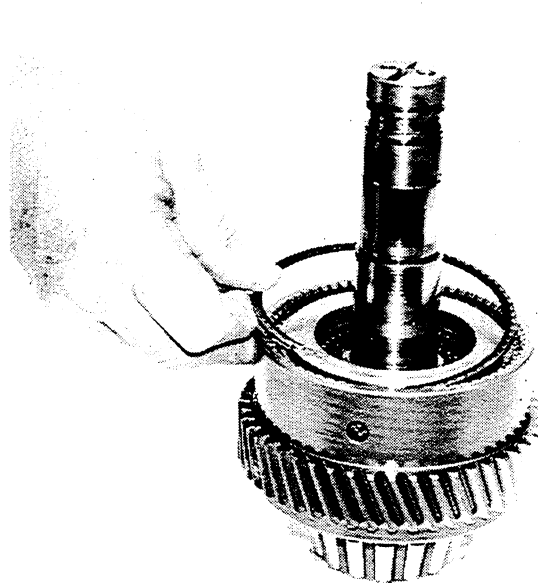

Figure 8-5. *Removing or Installing the Internal Retaining Snap Ring on the Housing Gear.*
7. Remove internal snap ring (Figure 12-3, 9). See Figure 8-5.
7. Install internal snap ring (Figure 12-3, 9). See Figure 8-5.